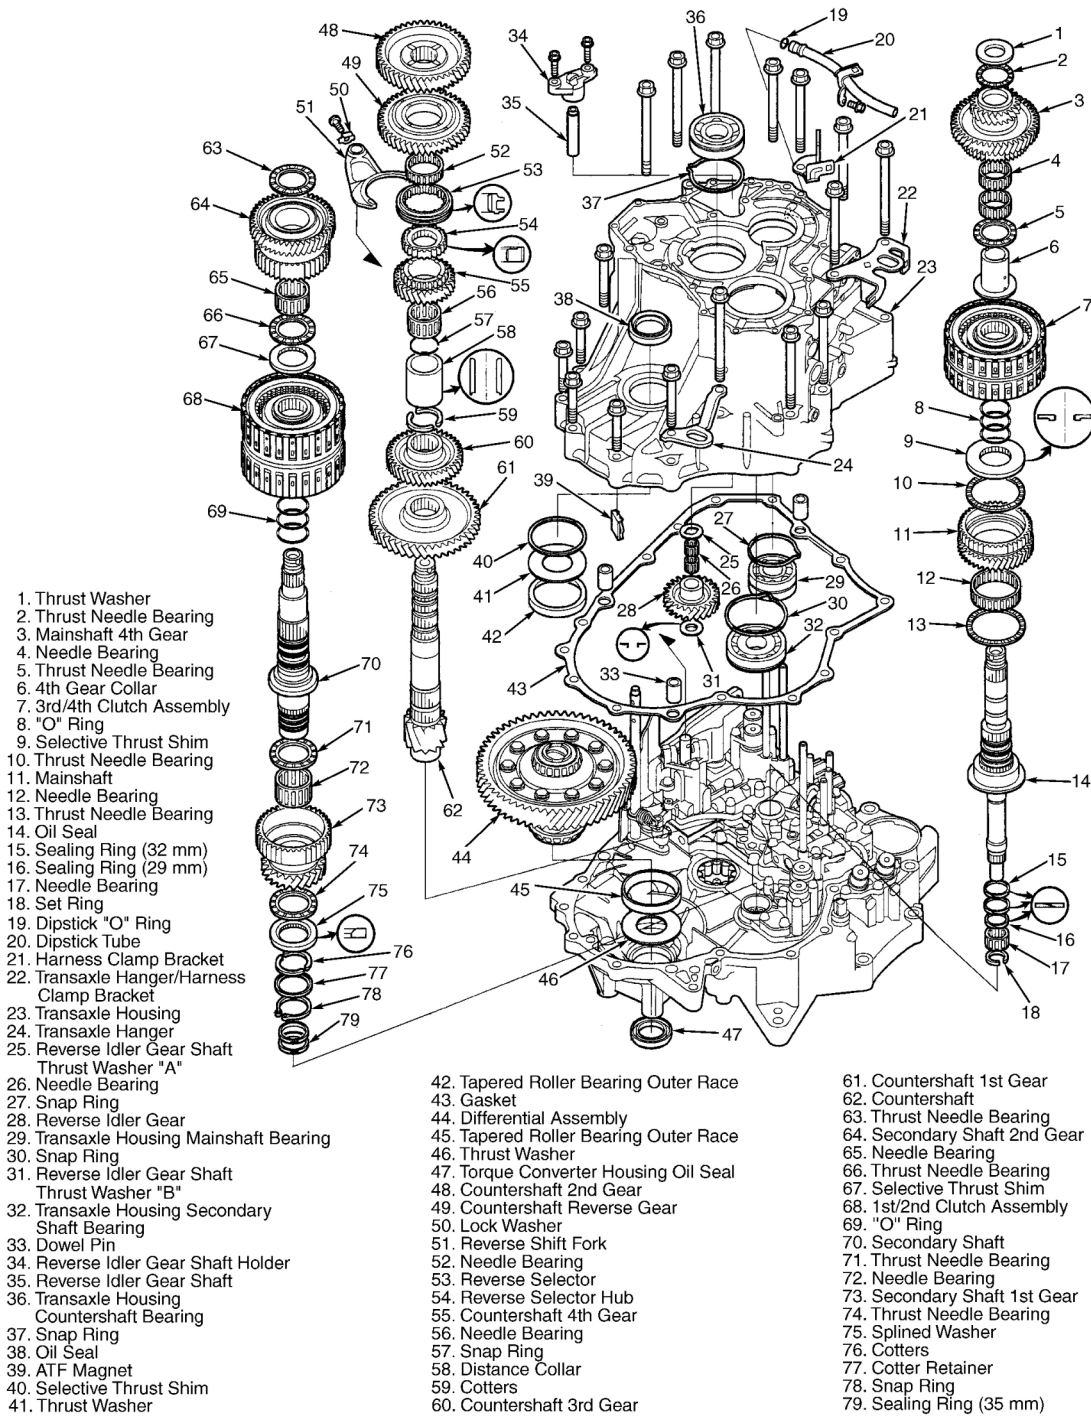

Fig. 8: Exploded View Of Transaxle Housing & Related Components
NOTE: Refer to illustration during disassembly. See **Fig. 8**.
4. Remove countershaft 2nd gear, countershaft reverse gear and needle bearing. See **Fig. 8** . Remove shift fork lock bolt. Remove shift fork with reverse selector. Remove reverse selector hub and countershaft 4th gear from countershaft.